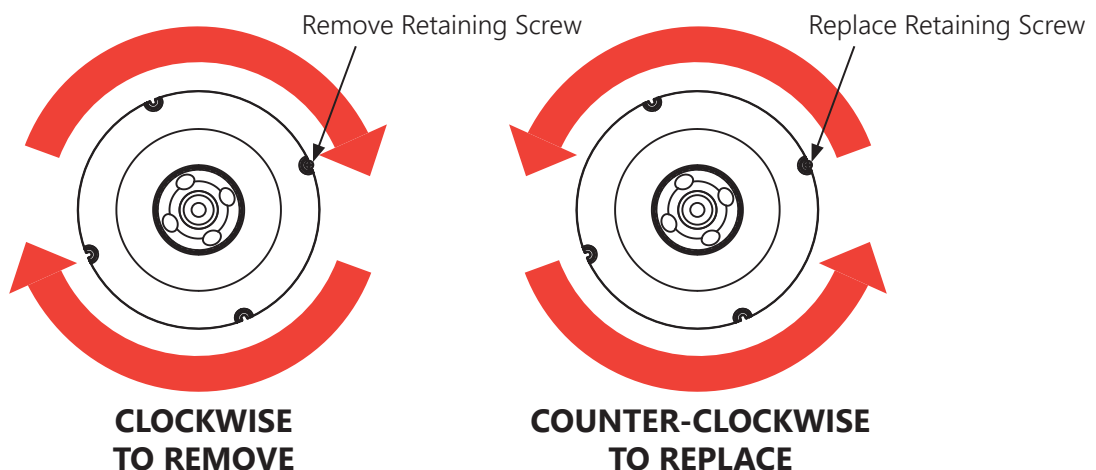

FIGURE 2: LED MODULE INSTALLATION
Each unit is carefully packed at the factory and comes with a construction debris cover that prevents most construction contamination prior to operation. Remove the light module from the body by first removing the LED Module Restraining Screw, and then turn the light module **CLOCKWISE** to remove (Figure 2). Install the debris cover. Put the light module in a safe place until ready for final installation.
C.1.5 After the system has been started, adjust the height of the water using this valve to get the desired effect. The following tables (FIGURE 2) provides approximate values for water column height with combinations of GPM and depth of the Brilliant Wonders Lighted Bubbler mounted in the horizontal position.
**⚠ CAUTION INSTALL CONTROL BOX AT LEAST TWO (2) FEET ABOVE THE WATER LEVEL**